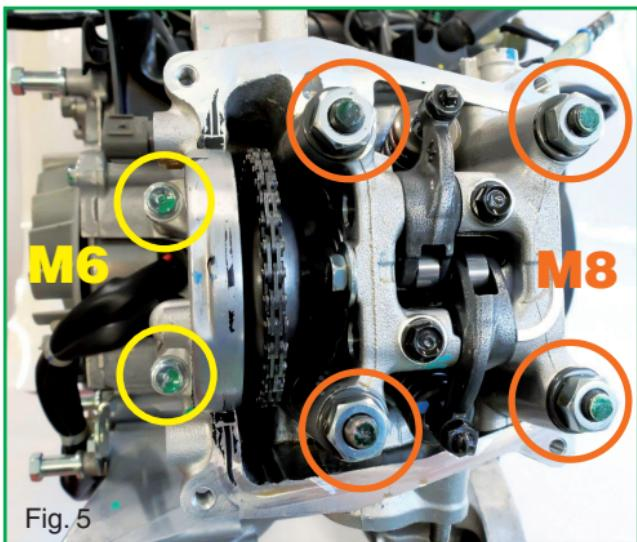

Fig. 5
- Remove the two M6 screws (Fig.5) that fix the head to the crankcase.
- Loosen the four M8 nuts (Fig. 5) by $\frac{1}{2}$ turn each, then remove them.